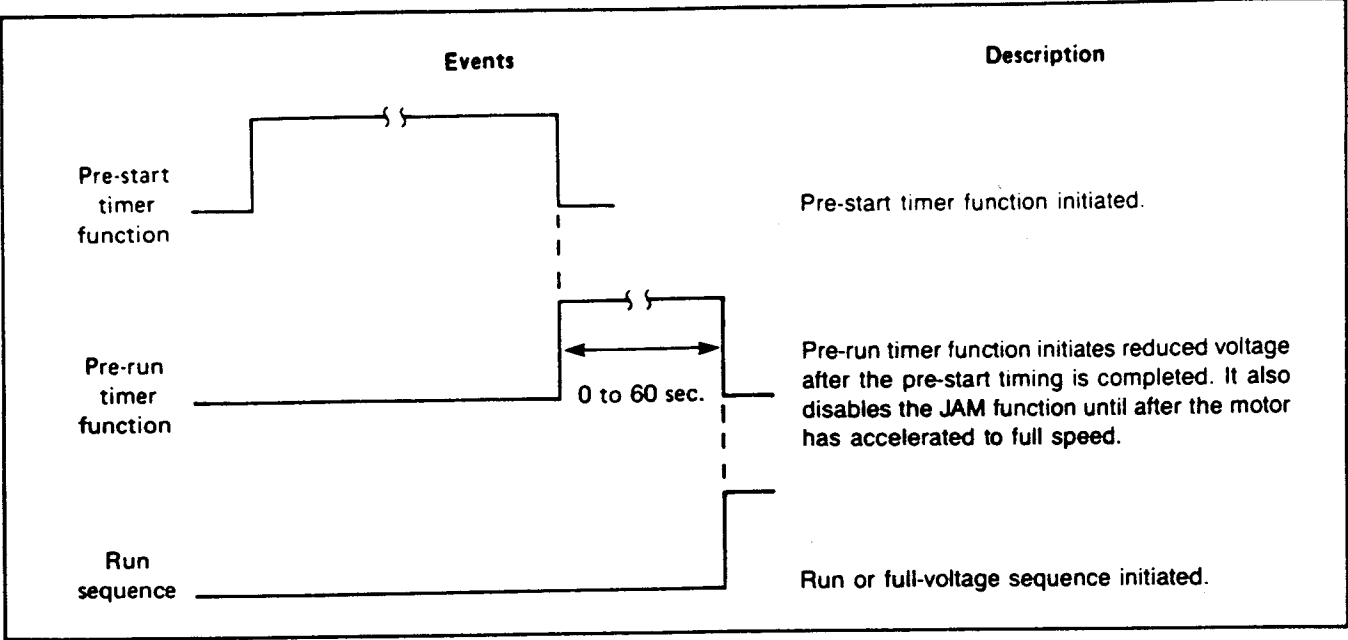

Figure 6.3 — Pre-run Events Diagram
6.15 Pre-Run Timer — The pre-run timer setpoint function is used with multi-step starter applications — such as reactor or autotransformer type starters — to define the time that the intermediate or reduced-voltage contactor will be energized. This function is initiated during the start cycle immediately after the pre-start timer function has timed out. (See Figure 6.3 and 5.6.) After the pre-run timer function has timed out, the run (full-voltage) sequence begins. The pre-run timer function is also used in conjunction with the JAM FUNCTION. It disables the jam function until after the motor has accelerated up to full speed.